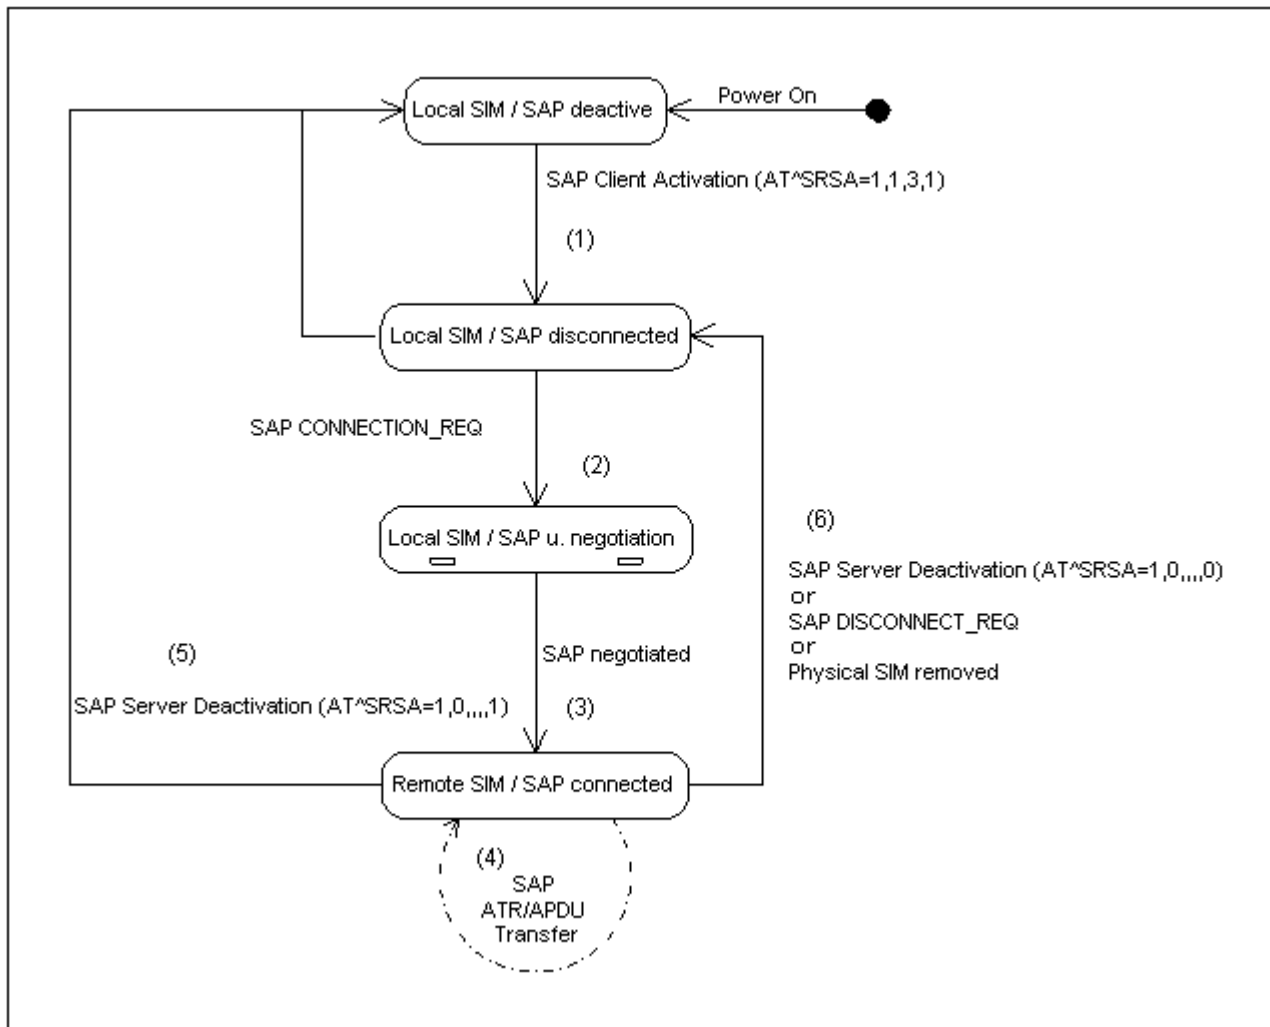

Figure 15.2: SIM usage states of SAP server
After SAP client activation (see (1) in Figure 15.2, SIM usage states of SAP server) the ME starts sending the SAP message CONNECTION_REQ. However, the client will still use its local SIM card until a server responds and the parameter negotiation with subsequent ATR access has been accomplished successfully.